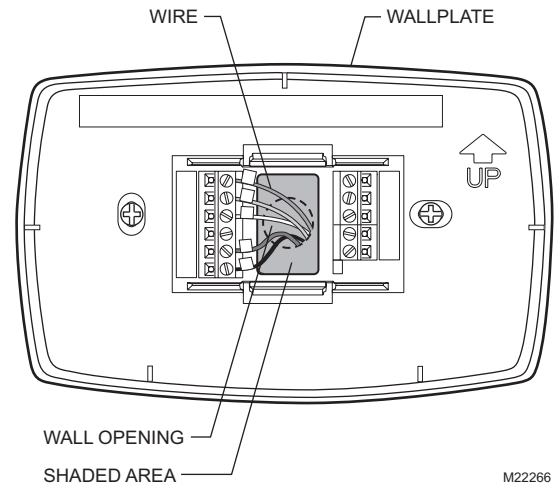

Fig. 11. Restrict wires to shaded area of wire hole.
4. Push excess wire back into the wall opening and restrict wires to the shaded area. See Fig. 11.